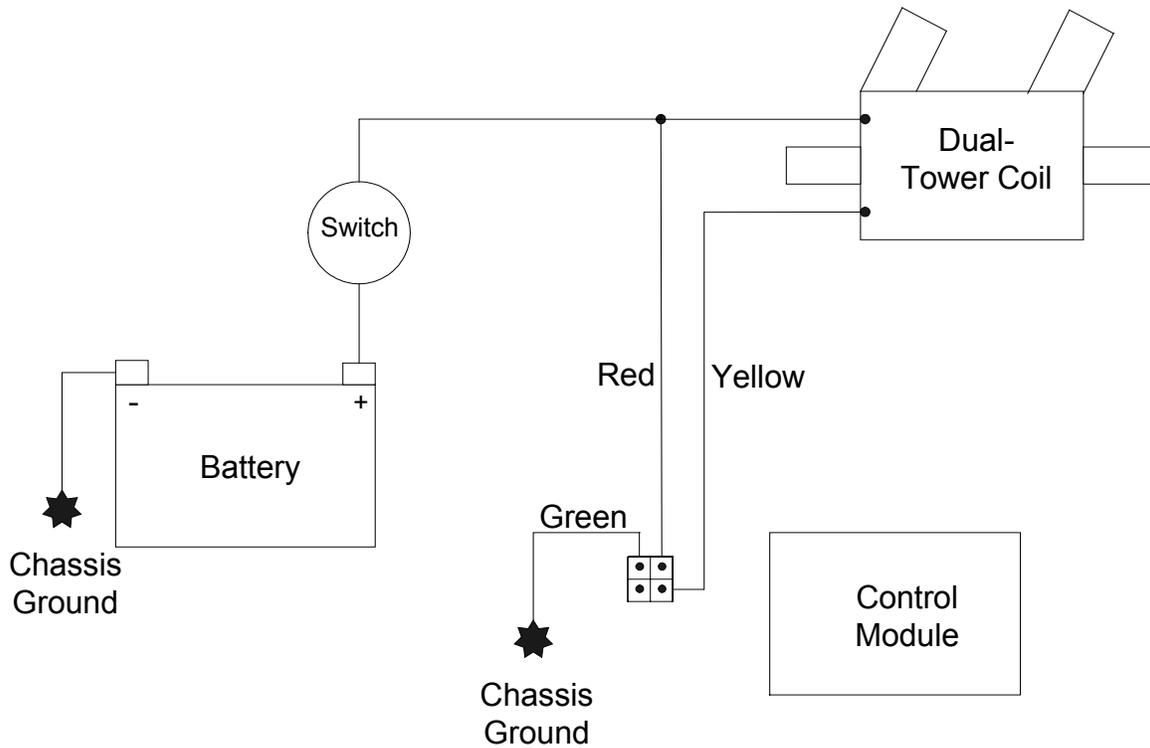

Figure 1
43. Figure 1 is a diagram of how the power wiring should look when you're done. The pickup plate and its wires are left out of the diagram for clarity – only the wires that the installer is responsible for connecting are shown. If you are unfamiliar with wiring diagrams, wires that have a "dot" at their intersection are electrically connected to one another.